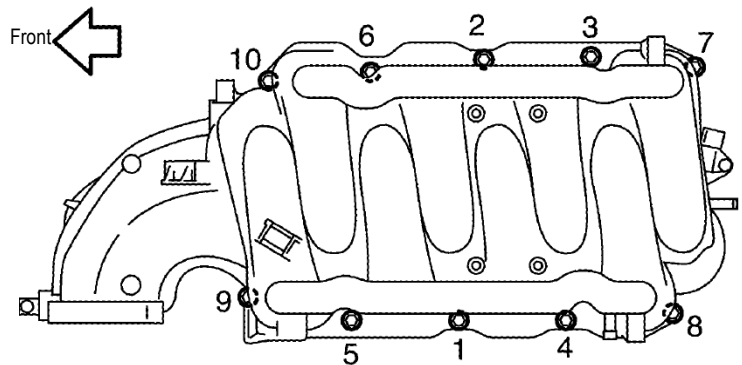

Figure 9
15. Remove 10 bolts securing the intake manifold to the engine (see Figure 9).